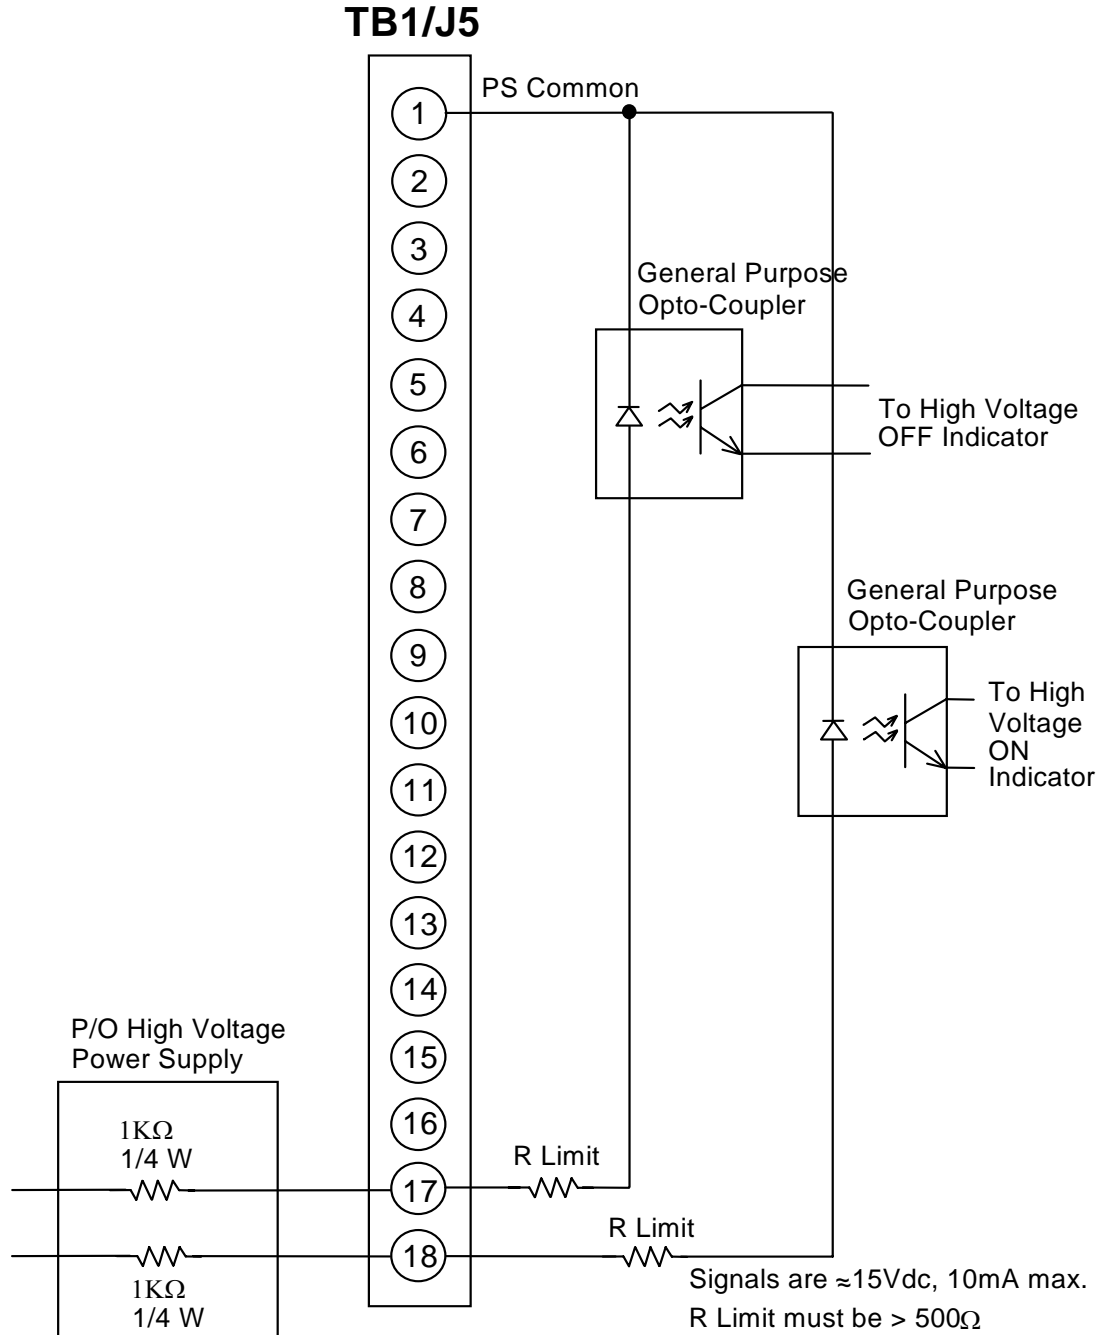

Figure 3.7 -- Remote High Voltage On and Remote High Voltage Off Indicator
- **REMOTE HIGH VOLTAGE ON & REMOTE HIGH VOLTAGE OFF:** Signals are provided for remote monitoring of the HIGH VOLTAGE ON/OFF status. See Figure 3.7 on page 16 for recommended interface.